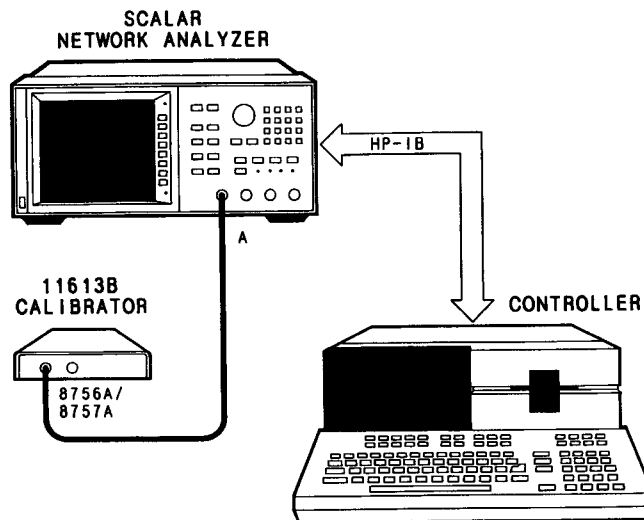

Figure 6-5. Test Setup for Operator's Check with HP 8757A Network Analyzer
1. Set up the equipment as shown in Figure 6-5.